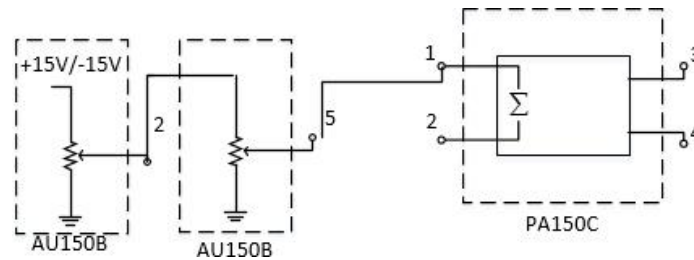

Figure 7 PA150C Characteristic Arrangement
1. Arrange the equipment like in the Figure 7 with +15V reference.